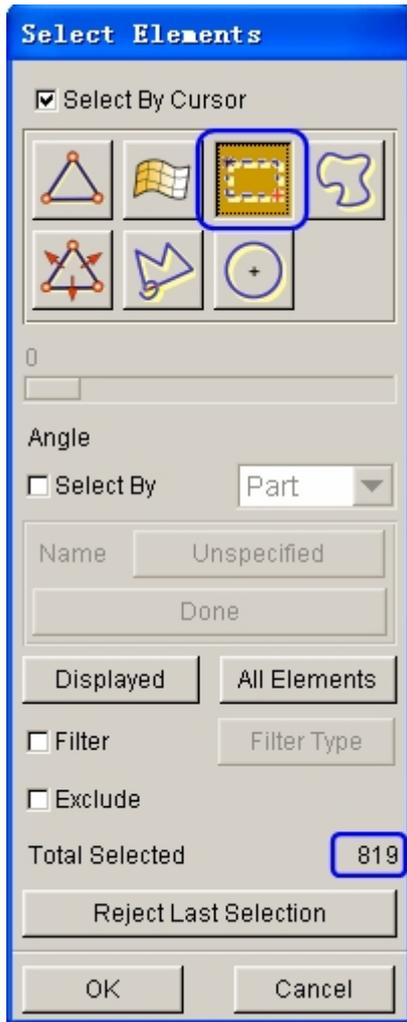
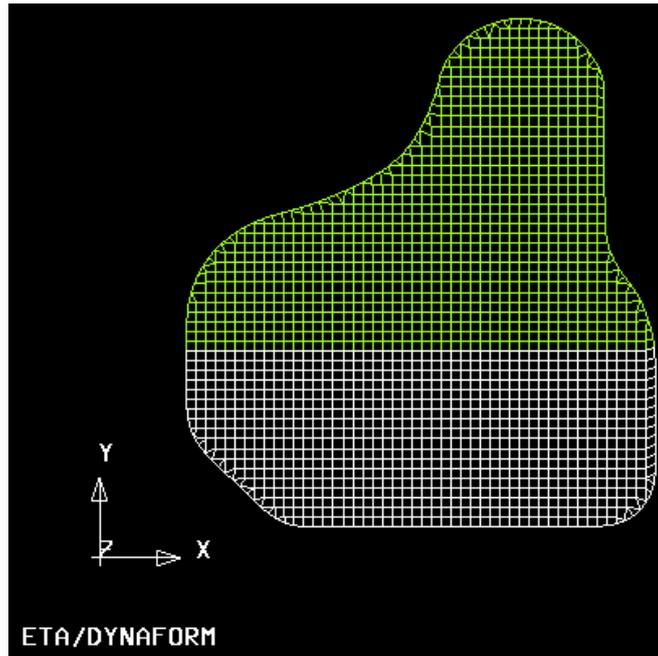

Figure 5.29 Select elements dialog box
Figure 5.30 Selected elements
5. Click **Split part** button to display the SELECT ELEMENTS dialog box illustrated in Figure 5.29. From the dialog box, click **Drag Window** icon to select elements highlighted in Figure 5.30.